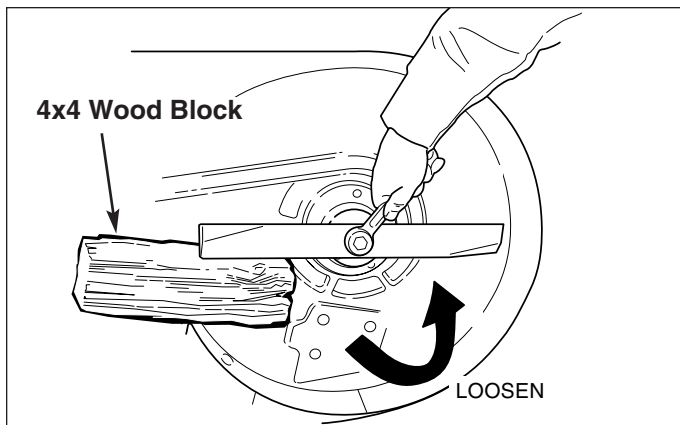

Figure 24. Removing the Blade
3. To remove the blade, use a wood block to hold blade while removing the blade mounting capscrew (Figure 24).